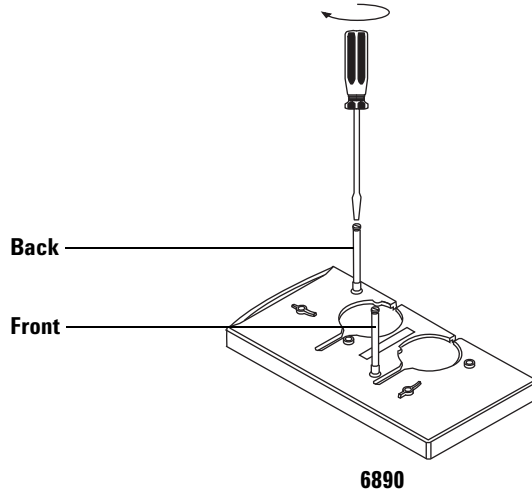

Figure 16 Installing the mounting post(s) (6890 GCs)
- **6890 Series GC.** Install into the inlet cover in the front or rear location, as desired. The post must be turned all the way down (Figure 16).